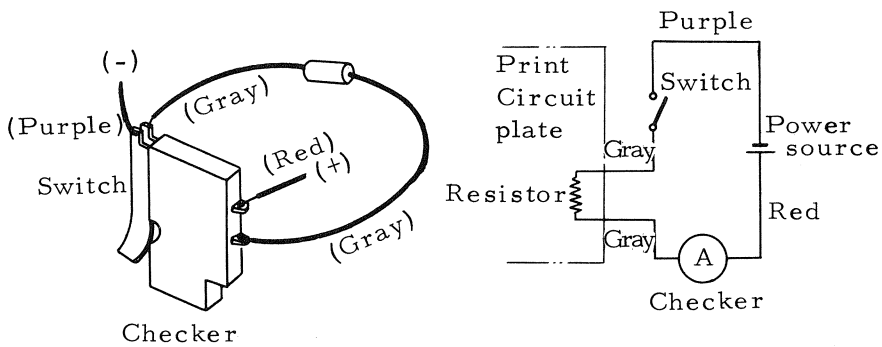

Fig. 17
- The needle should be within the red or blue ranges at this time. (Figs. 17, 18)